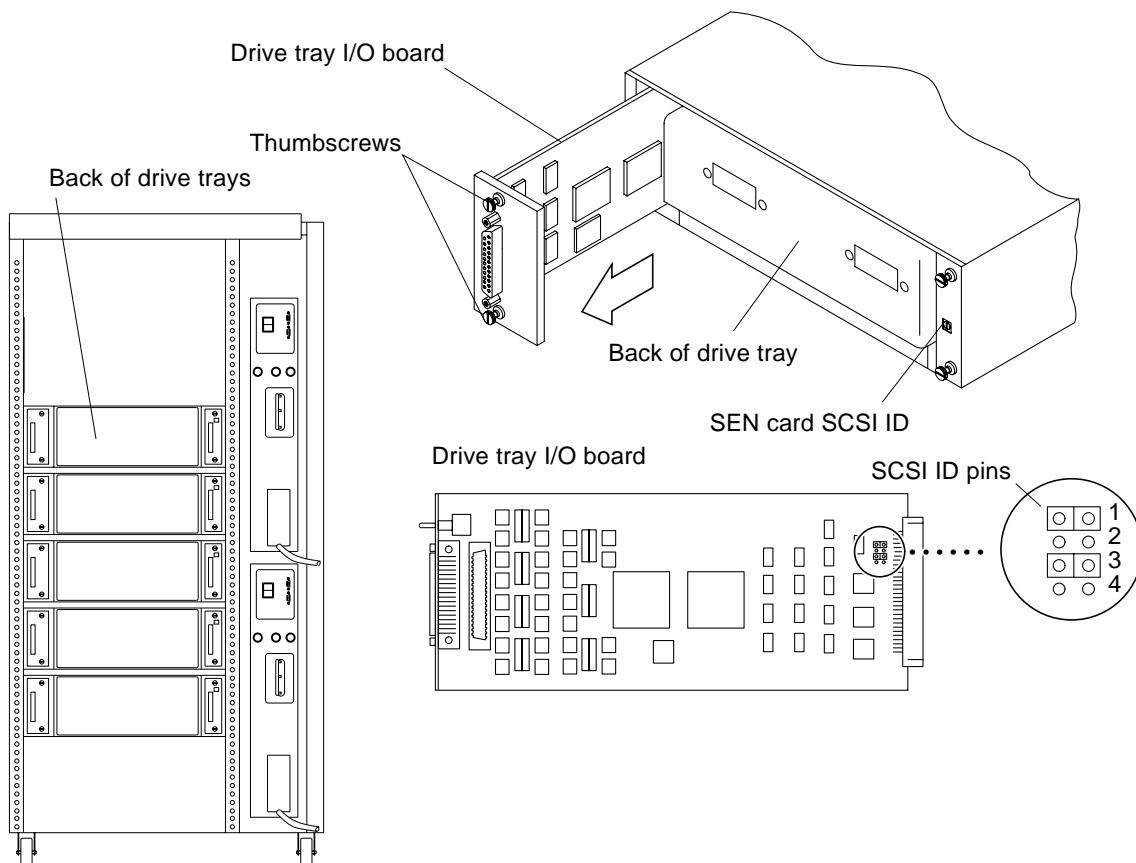

FIGURE 1-2 Removing the Drive Tray I/O Board and Setting SCSI ID Jumpers
2. Beginning with the top or bottom drive tray, loosen the two thumbscrews on the back left side (connector side) of the tray (FIGURE 1-2).
3. Pull the I/O board out of the drive tray with your left hand (FIGURE 1-2).
4. Move the jumpers to the first and third sets of pins (FIGURE 1-2).
Holding the I/O board in your left hand, look in the upper right corner. There are eight pins (four pairs aligned vertically) below the J2 circuit and above three black chips. There should be two jumpers attached to two or more pins. Move these jumpers to match the placement shown in FIGURE 1-2.
6. Set the SEN card SCSI ID switch to F (FIGURE 1-2).